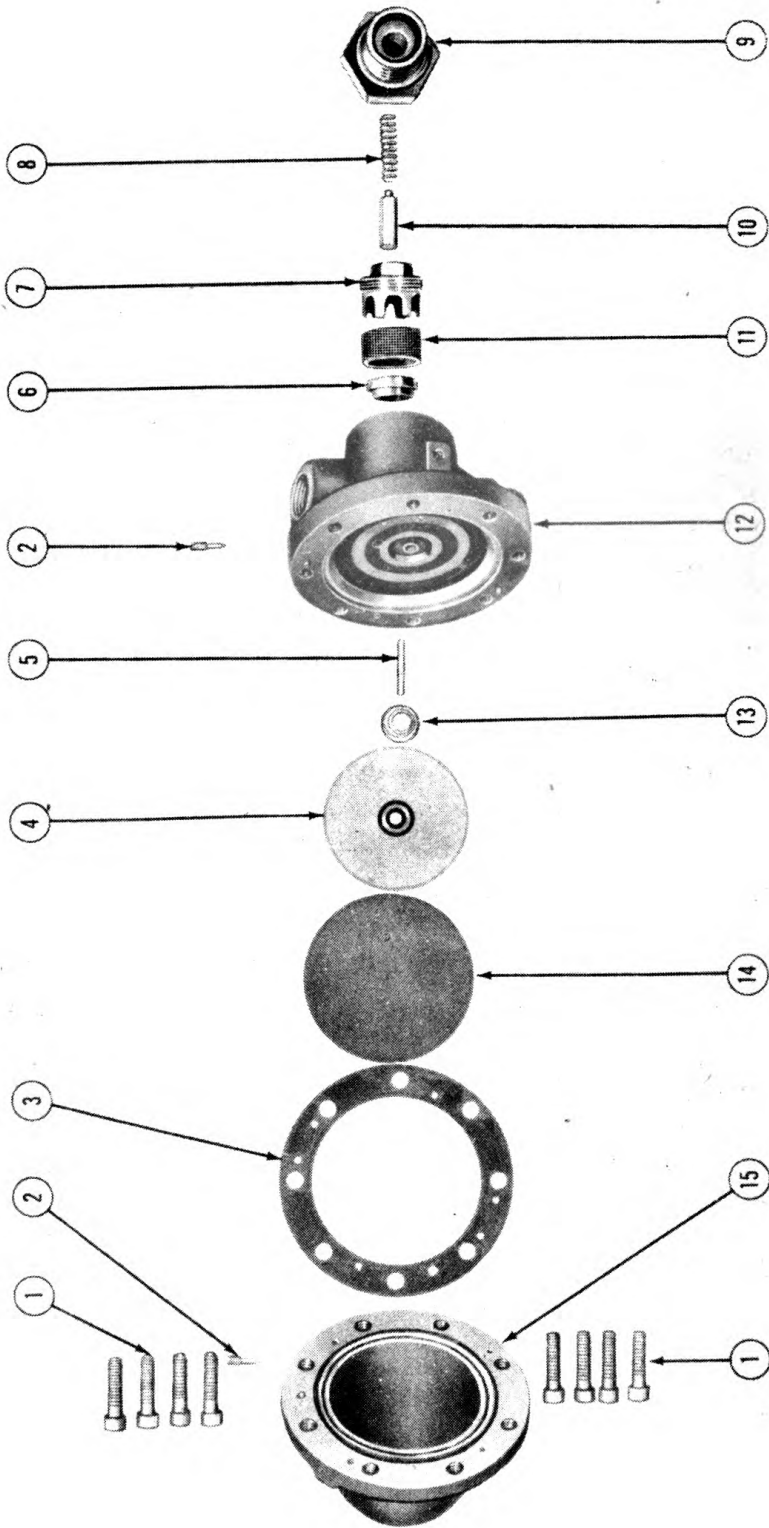

Figure 67—Main pressure regulator (disassembled).
b. Valve, valve seat, and valve seat gasket removal (fig. 67).
- (1) Using a wrench, unscrew body plug (9), which allows the valve spring (8) and valve (10) to be removed.
- (2) Using the bushing wrench, unscrew seat bushing (7), which allows the strainer (11), valve seat (6) and valve seat gasket to be removed. Clean or replace strainer if necessary.
- (3) Clean all seating surfaces well.
- (4) Replace damaged parts, using new gaskets.
c. Valve, valve seat, and valve seat gasket reinstallation (fig. 67).
d. Diaphragm removal (fig. 67). Disconnect and remove regulator. Release all pressure from dome. Then proceed as follows:
(1) Unbolt and remove dome (15), after releasing all pressure from dome.
(2) Lift out diaphragm (14), plate (4), and spring (13).
(3) Replace diaphragm if necessary.
(4) Check hole in plate across bottom of dome to make sure it is clear.
Legend for Figure 67